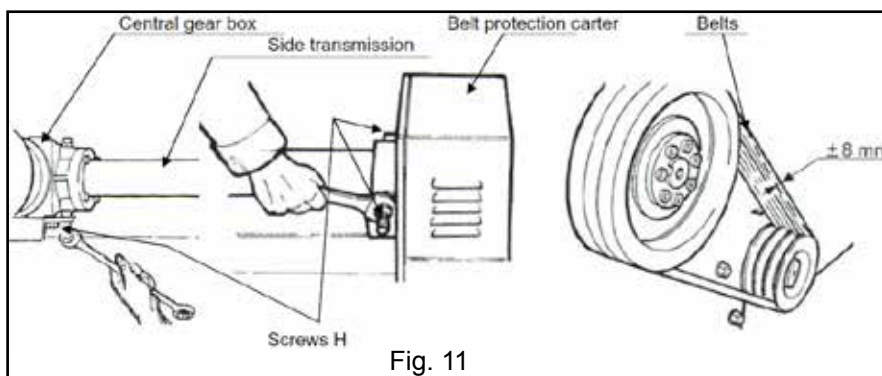

Fig. 11
- 4) Check the tension of the belts at the central point; apply a force of about 9kg at the centre to obtain a deviation of about 6-8mm (see Fig. 11).